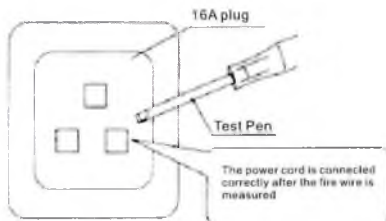

Figure 2
- 2.install the water purification (washing) host on the right side of the water separator, take out the filter element component, tear off the filter element protective film, then install it into the water purification (washing) host and tighten it, finally the raised part on the right side is completely inserted into the water separator slot, turn the host from inside to outside, make the host vertical up (transparent cover up) , that is, complete the water (washing) host installation (ZSW-D05)(as shown in Figure 2) .